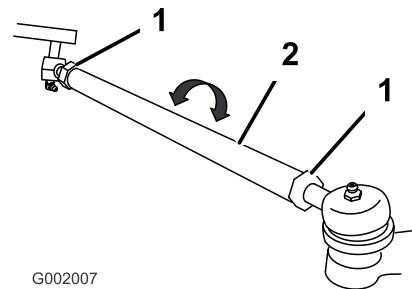

Figure 46
5. If the measurement does not fall within the specified range, loosen the jam nuts at both ends of the tie rods (Figure 46).